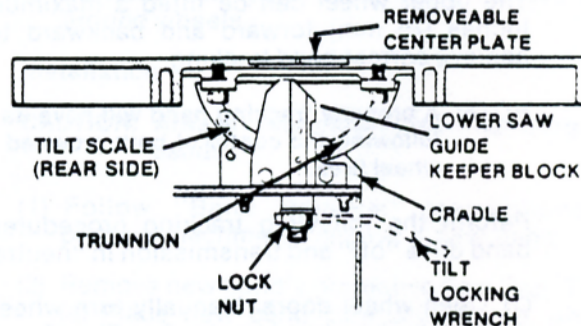

FIG. 15. TYPICAL WORK TABLE AND TILTING FEATURES.
(1) The standard work table measures 26 inches by 26 inches (660 mm by 660 mm). Its load capacity is 500 pounds (225 kg). See Fig. 15.